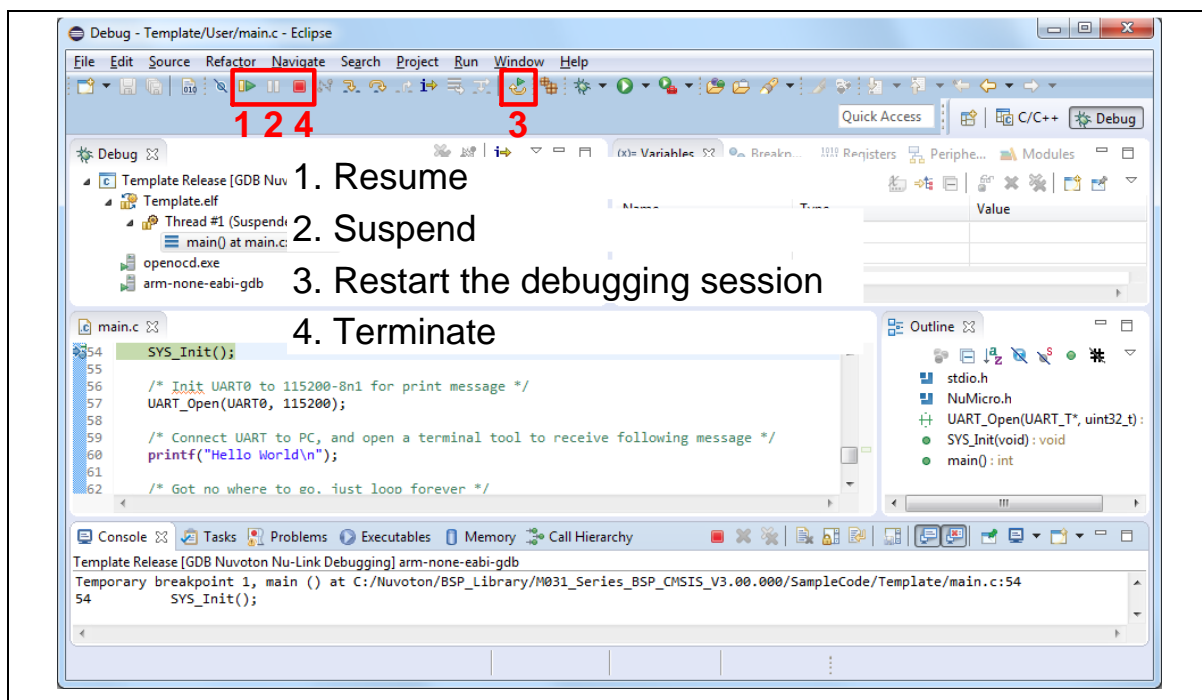
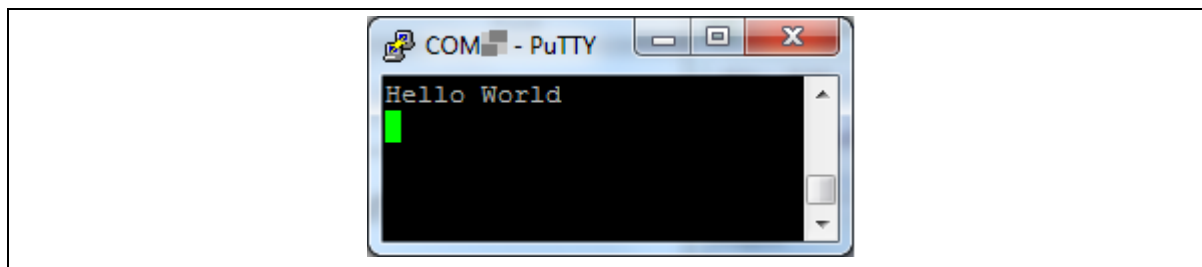

Figure 5.2-45 NuEclipse Debug Mode
Figure 5.2-46 Debug Message on Serial Port Terminal Windows
- (7) Figure 5.2-45 shows the debug mode under NuEclipse. Click “Resume” and the debug message will be printed out as shown in Figure 5.2-46. User can debug the project under debug mode by checking source code, assembly language, peripherals’ registers, and setting breakpoint, step run, value monitor, etc. For more information about how to use NuEclipse, please refer to the NuEclipse User Manual.